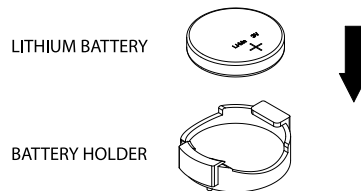

Figure 3-5. Installing the Onboard Battery
2. Use the handle to pull the carrier out of the chassis (Figure 3-5).